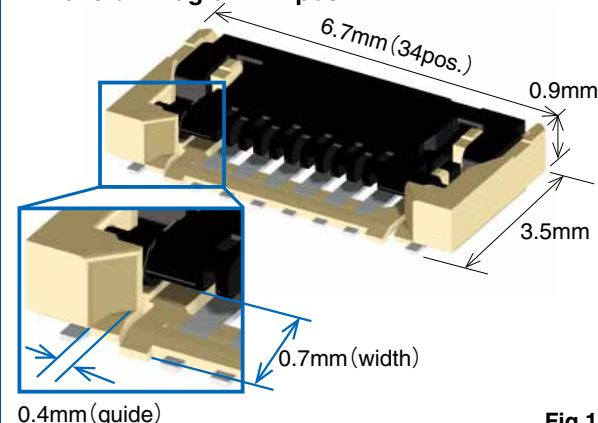

Fig.1
- Space saving design with 0.3mm pitch, 4.0mm width, 0.9mm height (Fig.1).
- Wide guide for easy FPC insertion (Fig.1).
- 7 > Fig.1 indicates the lock lever in an open condition. FPC can be extracted by opening the lock lever more than 45°.